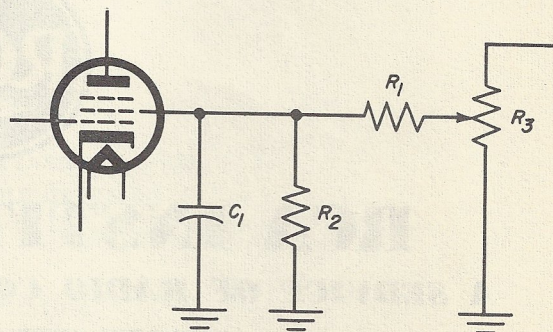

Fig. 13-2
Testing the Resistor With an Ohmmeter. Fig. 13-2 shows part of a radio circuit. It contains resistor R_1 , which we will consider to be defective. Let's consider how to test this resistor with an ohmmeter to find out what is wrong with it.
4. When testing a resistor in a radio or television receiver, always disconnect one lead of the resistor from any other part or parts to which it is connected in order to avoid wrong readings, unless you are sure that these other parts do not form circuits that are in parallel with the resistor being tested. Resistor R_1 in Fig. 13-2 should be disconnected from the circuit to avoid incorrect ohmmeter readings. If the resistor is not disconnected and the two ohmmeter leads are placed across R_1 , the ohmmeter will also read the circuit consisting of resistors R_2 and R_3 in parallel with R_1 . This means that, due to the shunting effect of resistors R_2 and R_3 , you may think that R_1 is normal even if R_1 is open or has a very high incorrect value of resistance.